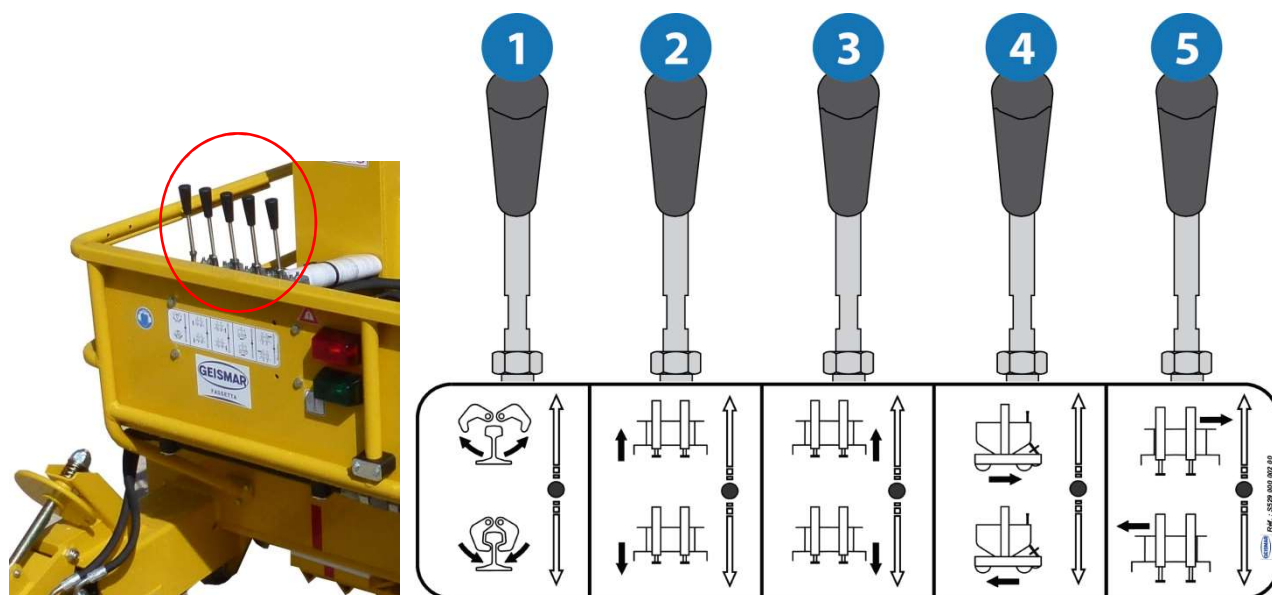

Figure 15
- The control of the displacement is obtained in normal use from the transmitter of the remote control and in emergency use from the hand controls of the hydraulic distributor (Rep.4 Figure 15 page 30).
- Use the manual hydraulic controls (Rep.1 à 3 Figure 15 page 30).
- Use the drive manual hydraulic controls of the displacement (Rep.4 Figure 15 page 30).